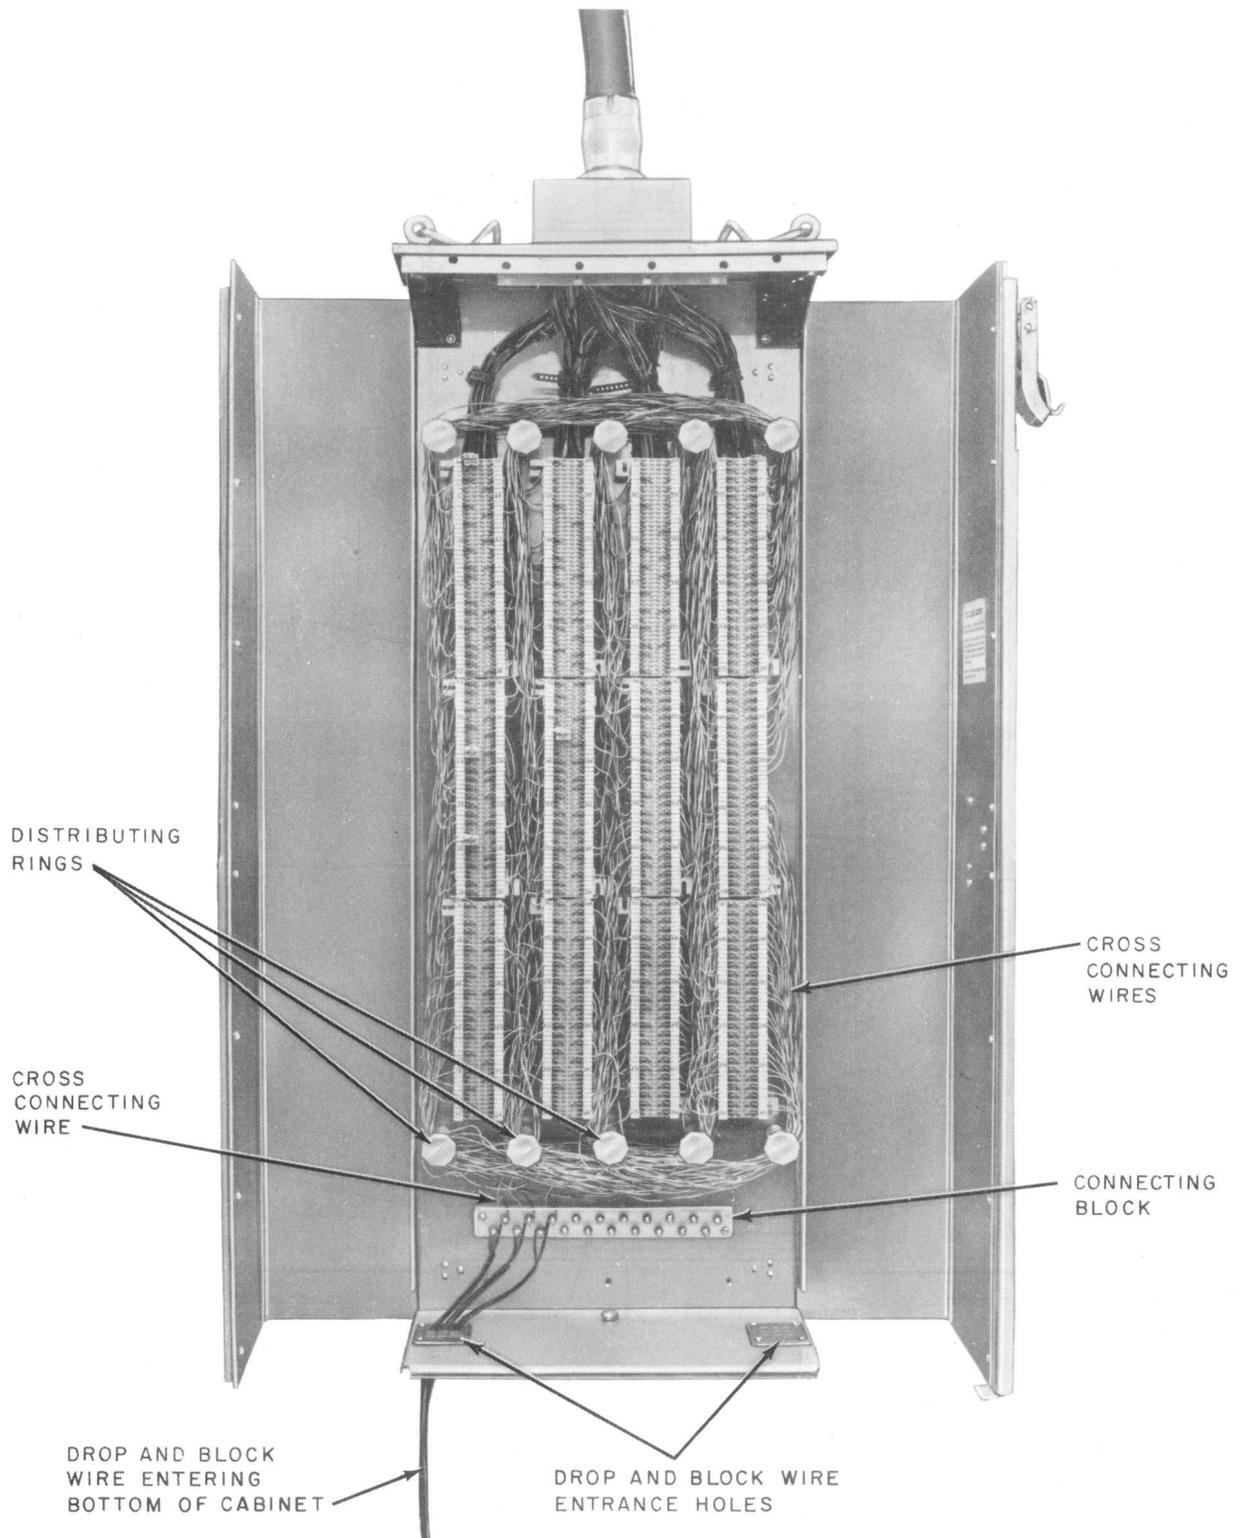

Fig. 14—Terminating Drop Wire—101-Type Cable Terminal
- (c) Install cross-connecting wire between the feeder pair binding posts and a vacant drop wire binding post. Then terminate the drop wire as shown in Fig. 14 and 15.